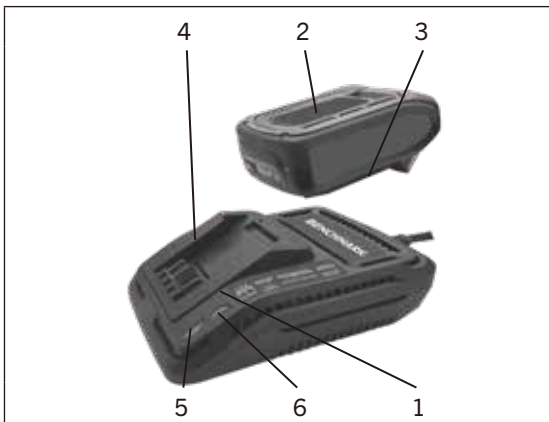

FIG. 1
1. Place the battery charger (1) in a dry location near a 110–120V 60 Hz electrical outlet (Fig. 1).